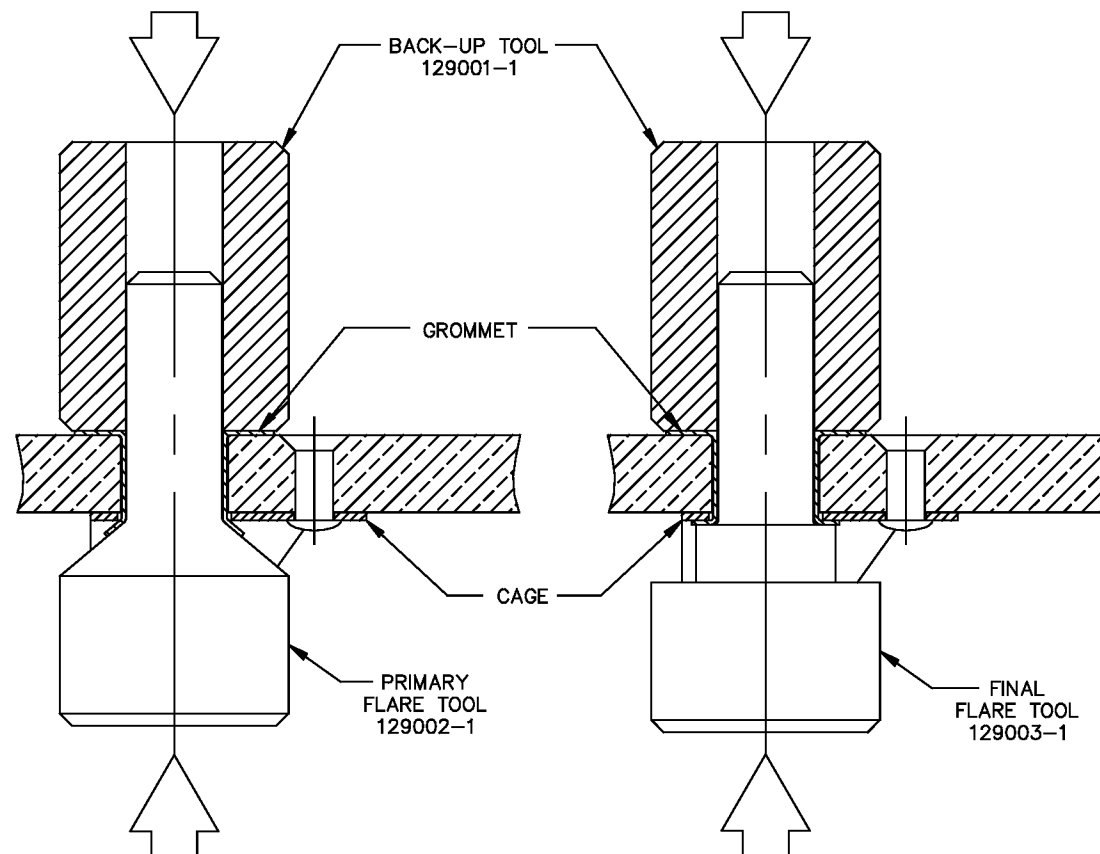

FIGURE 3
3. INSERT GROMMET AND CAGE INTO PANEL HOLE, AND PRIMARY FLARE TOOL INTO CAGE AND GROMMET THRU BACK-UP TOOL AS SHOWN IN FIGURE 3. APPLY A COMPRESSIVE LOAD IN DIRECTION OF ARROWS TO PRE-FLARE GROMMET AGAINST CAGE. REMOVE THE PRIMARY FLARE TOOL.